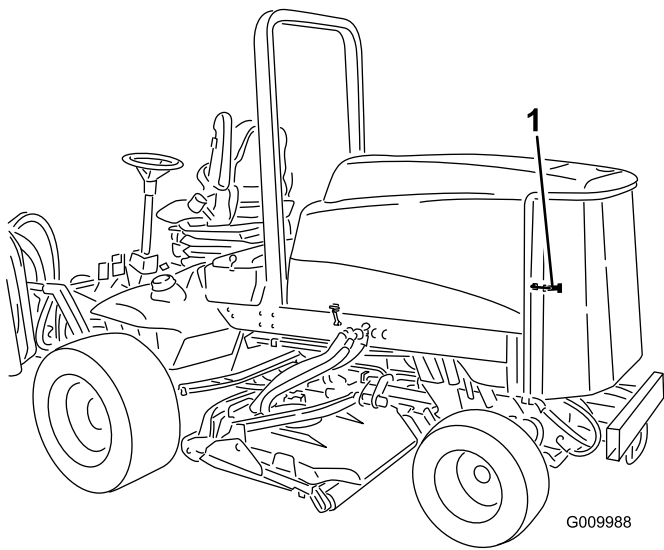

Figure 75
1. Unlatch and swing open the rear screen (Figure 75).